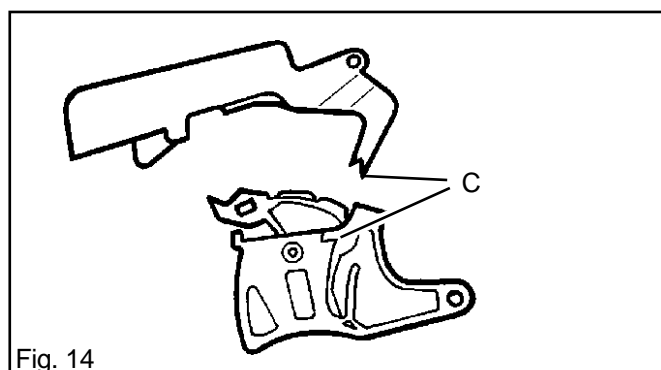

Fig. 14
2. The lock activation mechanism is not worn. See C in fig. 14.